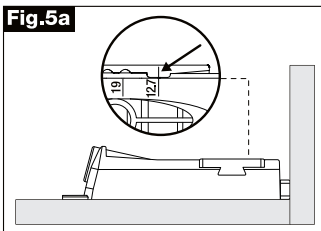

Fig.6
- Pocket hole spacing (fig. 6)